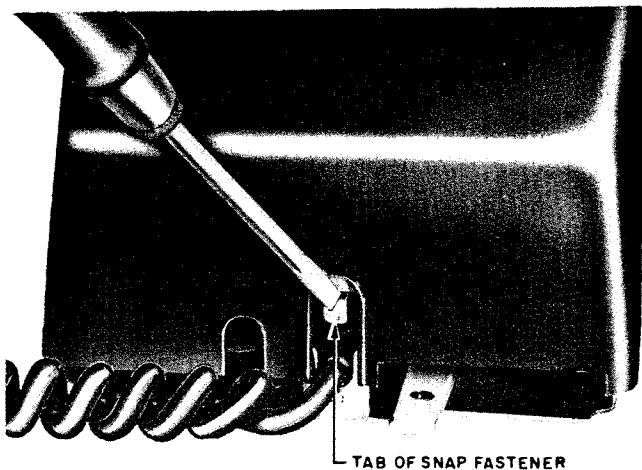

Fig. 6 — Wall-type Telephone Set, Method of Removing Housing
8.03 To remove housing on wall-type telephone sets, push inward on tab of snap fastener located in the card slot and, while the tab is depressed, lift the lower part of the housing outward and upward, releasing fastener catch and disengaging latch spring assembly (see Fig. 6, 7, and 8). To replace, slip housing over switchhook and